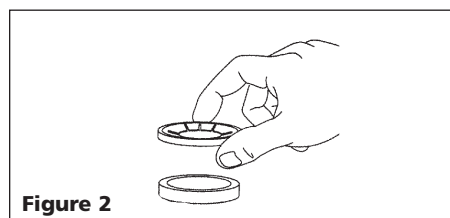

Figure 2
2. Place "star shaped" retaining ring on the spacer (tang pointing down) (Figure 2).